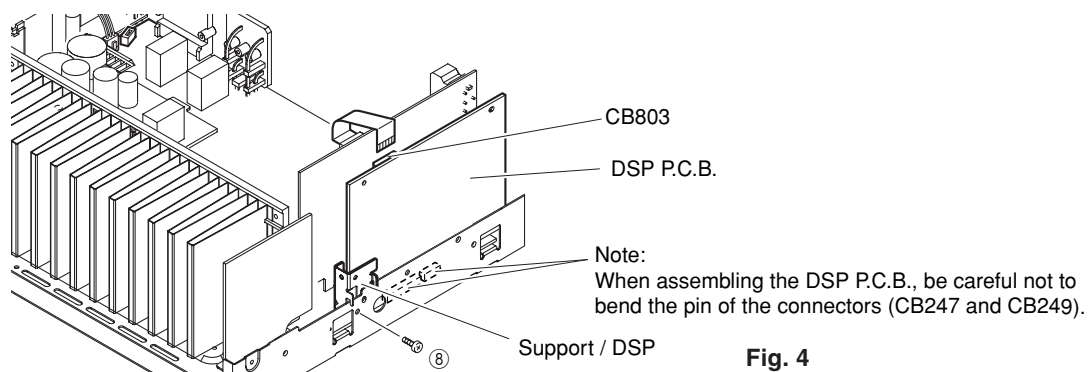

Fig. 4
- a. Remove 1 screw (⑧). (Fig. 4)
- b. Remove CB803. (Fig. 4)
- c. Remove the DSP P.C.B. with the Support/DSP. (Fig. 4)